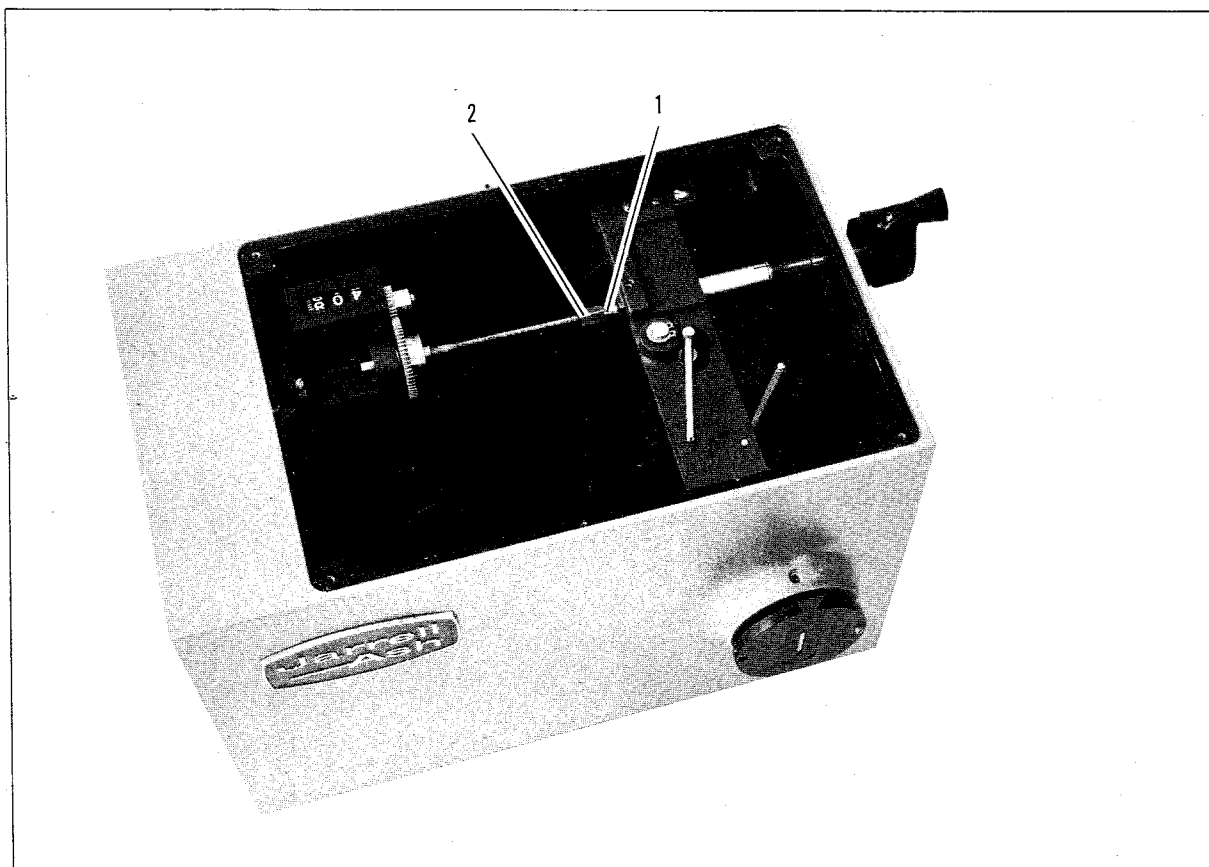

Figure 9
4. Check wavelength drive mechanism for axial play. Play can be removed by adjusting the small nut (1, Fig. 9) until the play is eliminated and the micrometer operates smoothly. The nut (2, Fig. 9) on the flexible shaft should be jammed against the small nut (1, Fig. 9) to maintain the adjustment.